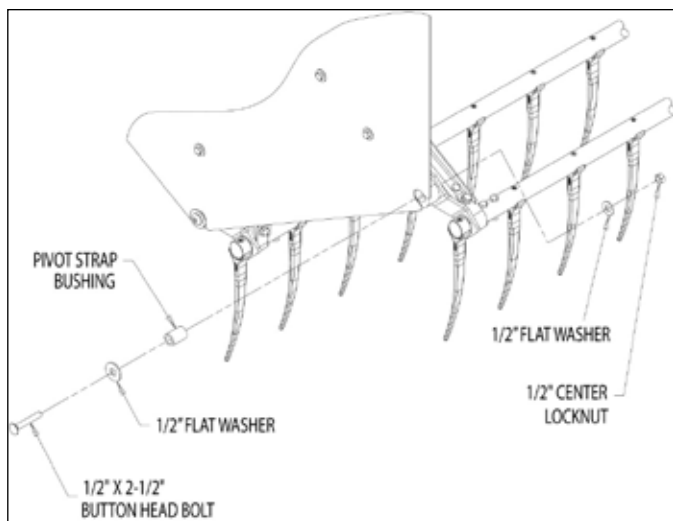

Figure 35, Loosen and remove hardware and bushing
1. Remove one 1/2" X 1-1/2" hex bolt, two 1/2" flat washers, one pivot strap bushing and one 1/2" center locknut (Figure 35).